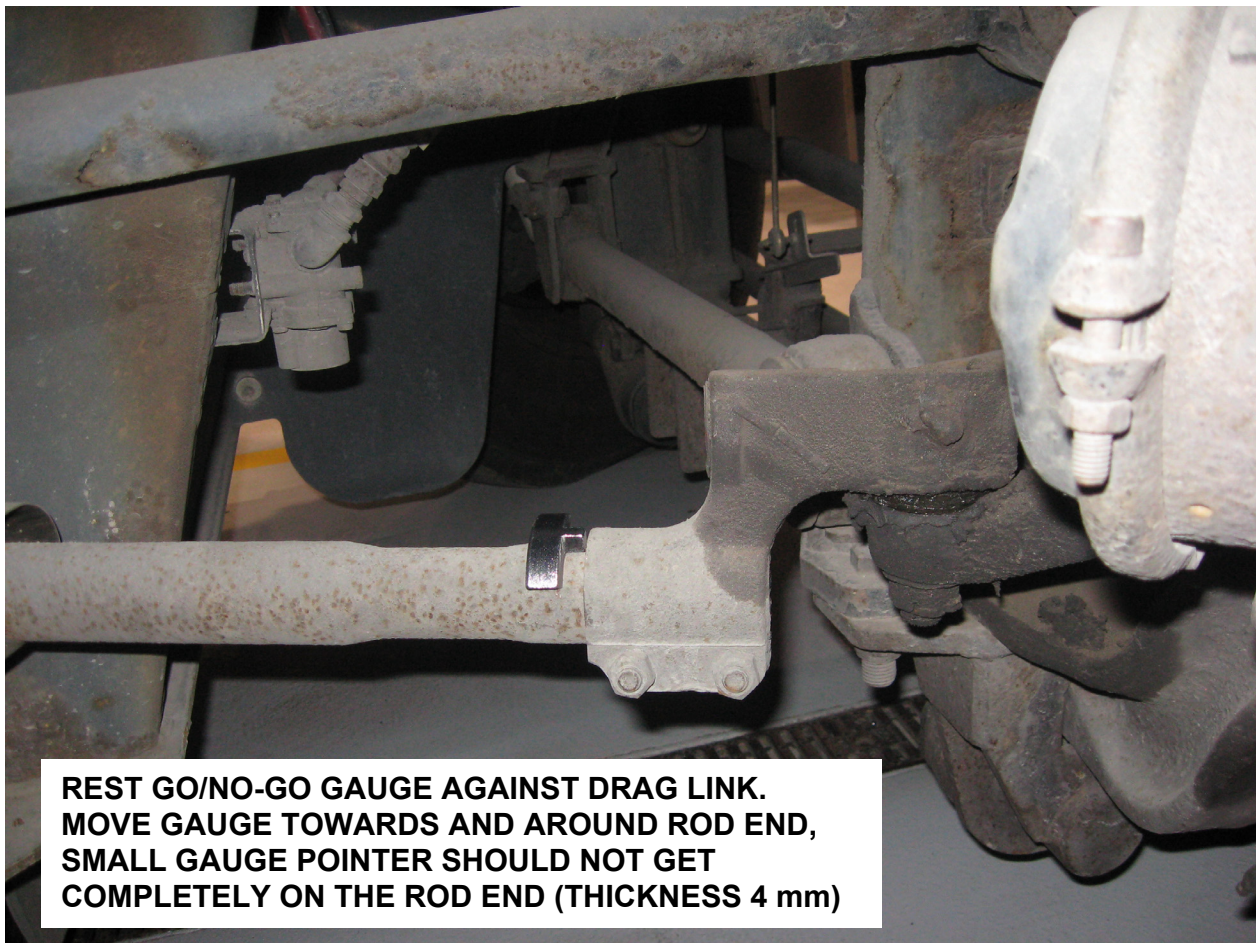

FIGURE 3
2. Clean drag link surface near the rod end and also spherical plain bearing rod end to ensure proper measurements (Refer to figure 3)
3. Use supplied go/no-go gauge (169159) to check wall thickness of the drag link spherical plain bearing rod end located near front L.H. side wheel without having to remove drag link. **Minimum wall thickness is 4 mm (0.158 inch or 5/32")**. While resting go/no-go gauge against drag link, if you can get the gauge completely on the rod end up to 10 mm (3/8") from the rod end extremity, rod end must be replaced (Refer to figures 3, 4 and 5).